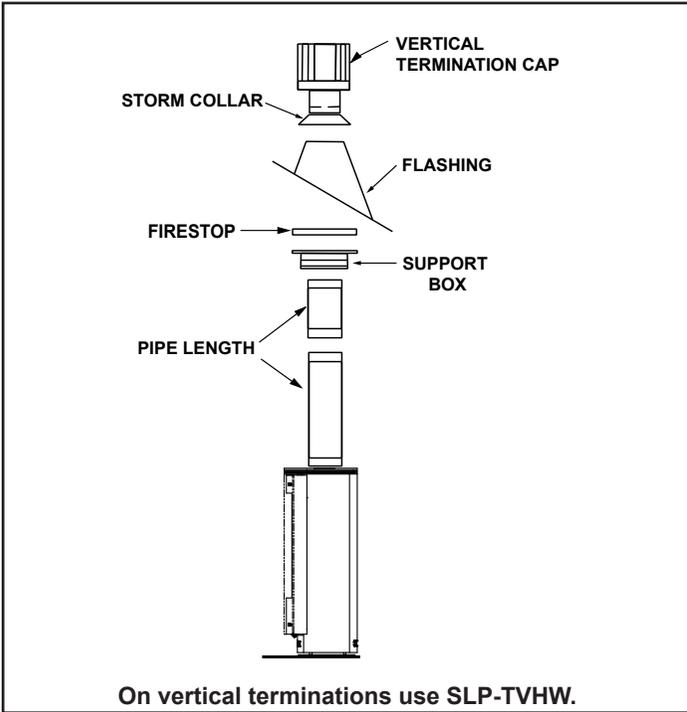

Figure 7.19
Step 1 - Check the installation instructions for required 10 in. (254 mm) clearances (air space) to combustibles when passing through ceilings, walls, roofs, enclosures, attic rafters, or other nearby combustible surfaces. (See **Figure 7.19**). Check the instructions for maximum vertical rise of the venting system, and any maximum horizontal offset limitations. All offsets must fall within the set parameters of the venting diagrams located in Section 7.